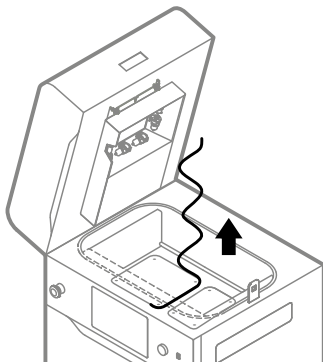

Fig. 12.36 Remove the used fiberglass rope from Feed Bed.
17. Remove the used fiberglass rope around the Feed Bed. You can use the metal spatula to help pull out the sealing (fig. 12.36).